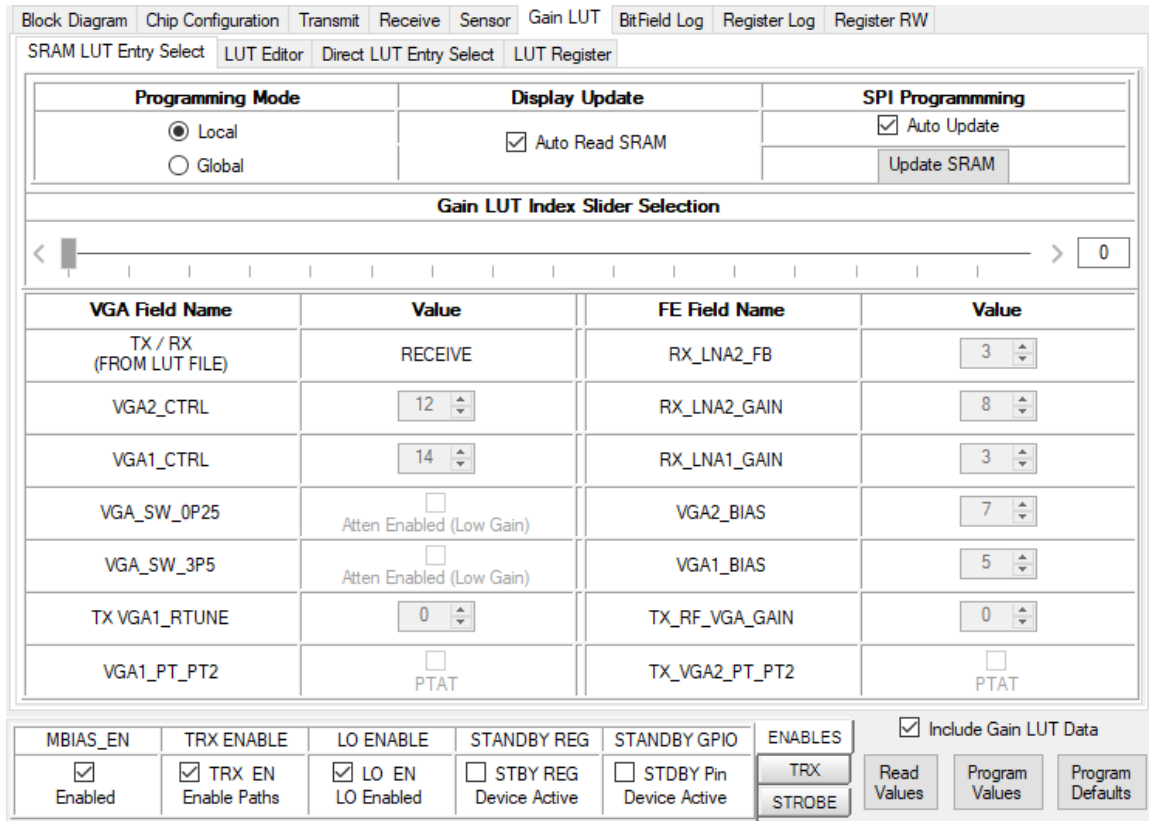

Figure 20. Gain LUT: SRAM LUT Entry Select
16. Figure 20 shows the **SRAM LUT Entry Select** panel. Use the slider to select any gain LUT index loaded on the SRAM, or similarly on the **Direct LUT Entry Select** panel (Figure 22) without accessing the SRAM.